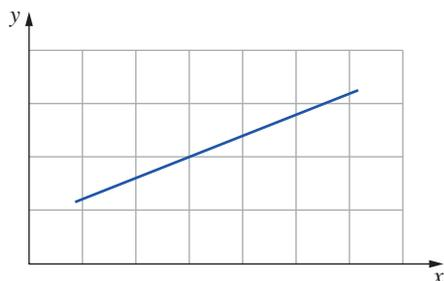

FIGURE 1.4.4 Trend line for variables that change in direct response to each other
- Variables that change in direct proportion to each other produce a straight trend line, as shown in Figure 1.4.4. This is described as a **linear trend** or relationship.